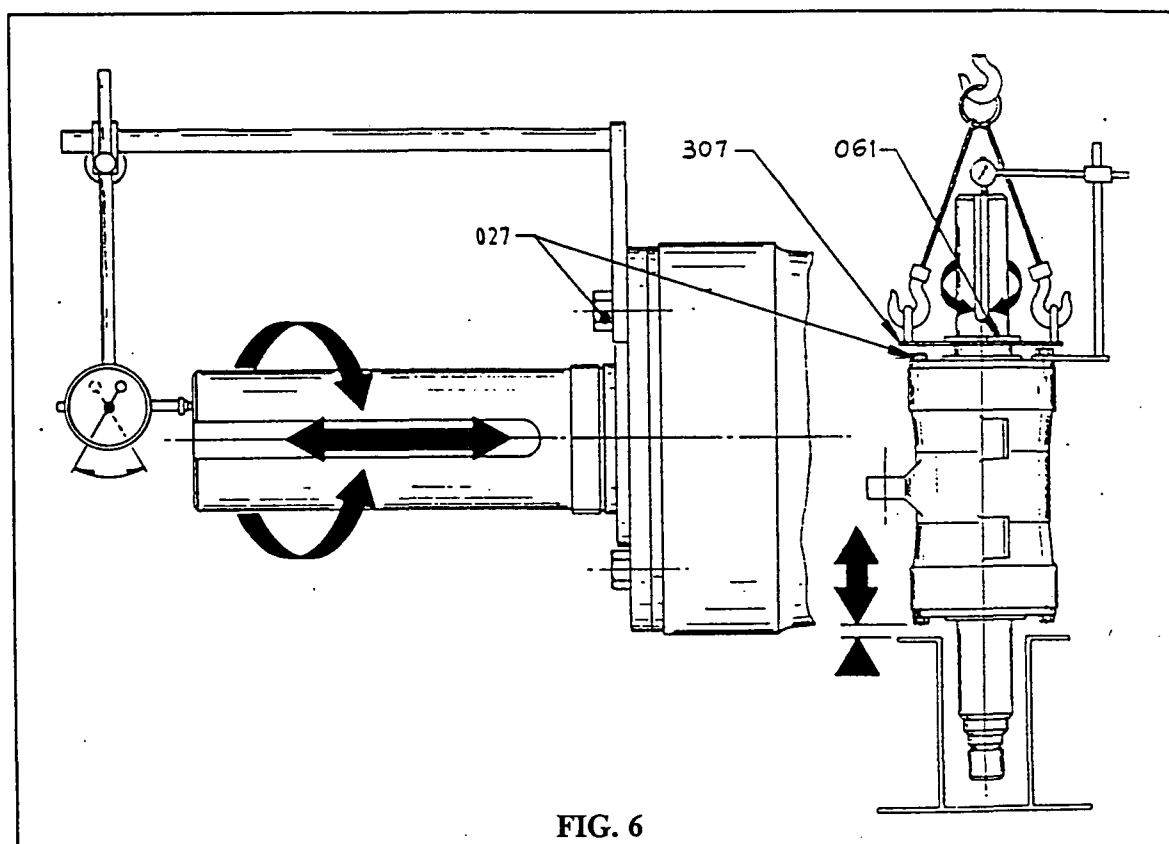

FIG. 6
See Fig 6
3. Fit BEARING ASSEMBLY LIFTING PLATE (307) {eyebolts up} to upper end of Shaft, then screw LABYRINTH LOCKNUT (061) temporarily onto Shaft. Tie ends of a rope, suspended from a hoist, to the eyebolts on the Lifting Plate (refer to Figure 6).